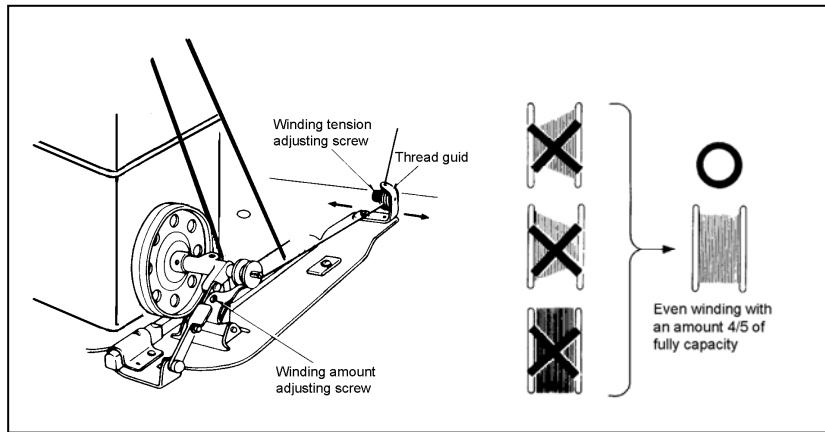

Fig.13
16、 How to wind the lower thread (Fig.13):